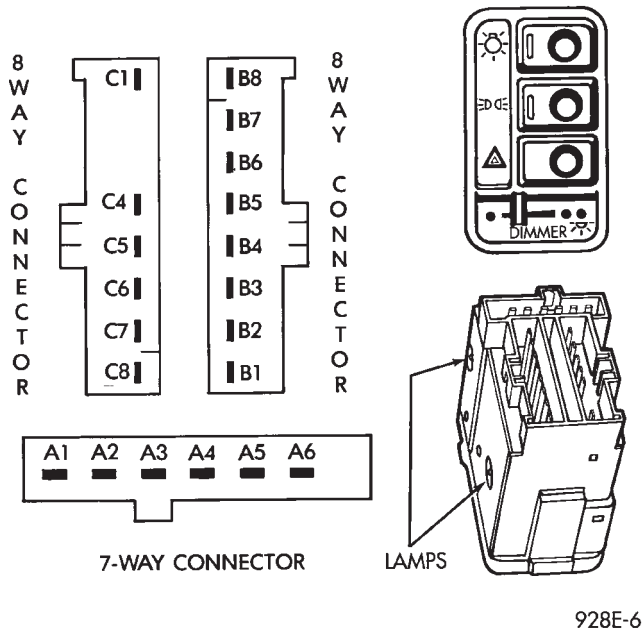

Fig. 27 Headlamp POD Switch
The headlamp, parking lamp and hazard switches operate with a push-on, push-off action. The interior lamp/dimming control switch has a horizontal sliding action with five clearly defined detent positions. The parking/headlamp lamp switches latch ON and use a cross cancelling mechanism to ensure the two systems are not ON at once (Fig. 27).
- (4) Tilt column down if possible for ease.
- (5) Gently pull cluster bezel out, to gain access to the switch assembly's snap fingers and push switch out through mounting hole for POD switch assembly (Fig. 27).
- (6) Remove wiring connectors for POD switch assembly.
- (7) For installation reverse above procedures. Check the functions of the headlamp switch.